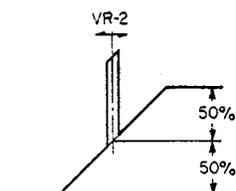

Fig. 10
- (5) Connect Oscilloscope to TP-4. Adjust VR-2 (30 KB) so that the Phase Control Sampling Pulse is positioned in the center of the Ramp Slope as shown in Fig. 10.